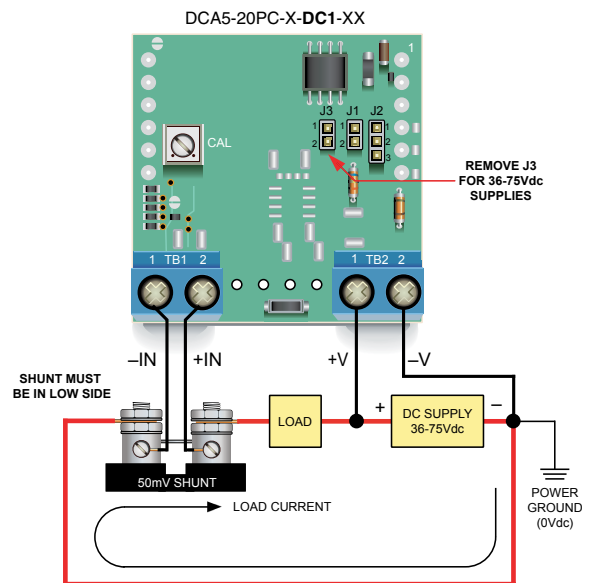

Figure 3. Low-Side Shunt Connections for "-DC1" Models Modified for 36-75Vdc Non-Isolated Power (See Technical Note 5)
- 5. Operation With 36 to 75Vdc Power:** As shipped, all '-DC1' models' rated operating supply range is +5 to +40Vdc. However, '-DC1' models can be user configured for 36 to 75Vdc operation by removing (opening) jumper J3. Please note that this user modification can only be performed on '-DC1' power models. Also, all '-DC1' models – including those that have been modified for 36-75Vdc operation – can only be connected in low-side, grounded-shunt applications. See Figure 3 for detailed wiring information.